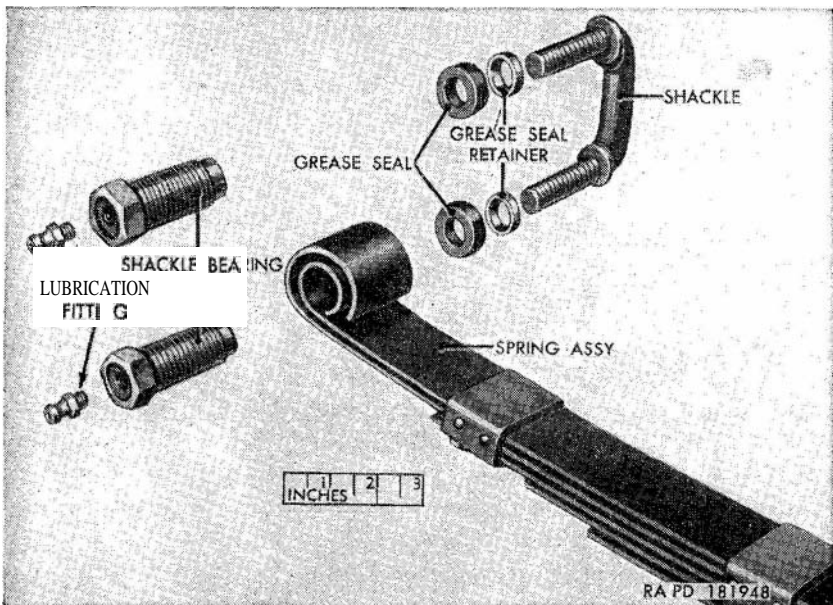

Figure 166. Spring shackle and spring shackle end of spring (M38A1)—*exploded view.*
- (3) Unscrew and remove the bushing-type shackle bearings (*fig. 166*).
- (4) Pull the spring shackle, with grease seals and grease seal retainer, from the eye of the spring assembly and frame side rail (for front spring) or spring bracket (for rear spring) .
- (5) Slip the grease seals and grease seal retainers off the shackle.
- (3) Insert the bushing-type shackle bearings (fig. 166) and start the threads, making certain that the threads start on the shackle before they start on the inner threads of the spring eye, frame side rail, or spring shackle bracket. Take up on both bearings until tight, then back off the lower bearing about one thirty-second inch (one-third of a turn). Screw a lubrication fitting in the end of each bearing. Lubricate shackle as directed on the lubrication chart (fig. 29).